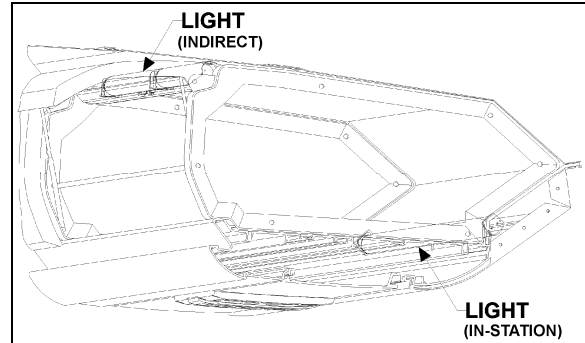

FIGURE 39: PARCEL RACK
3. Lift the hinged cover and replace the two retaining screws (Fig. 39).